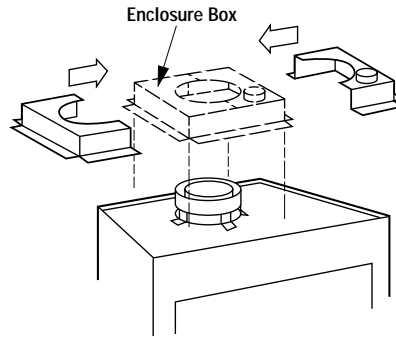

Figure 19
Step 6. Attach the cold climate kit, Model FTF10-CCK1-LD, around the chimney collar with the screws provided (**Figure 19**).